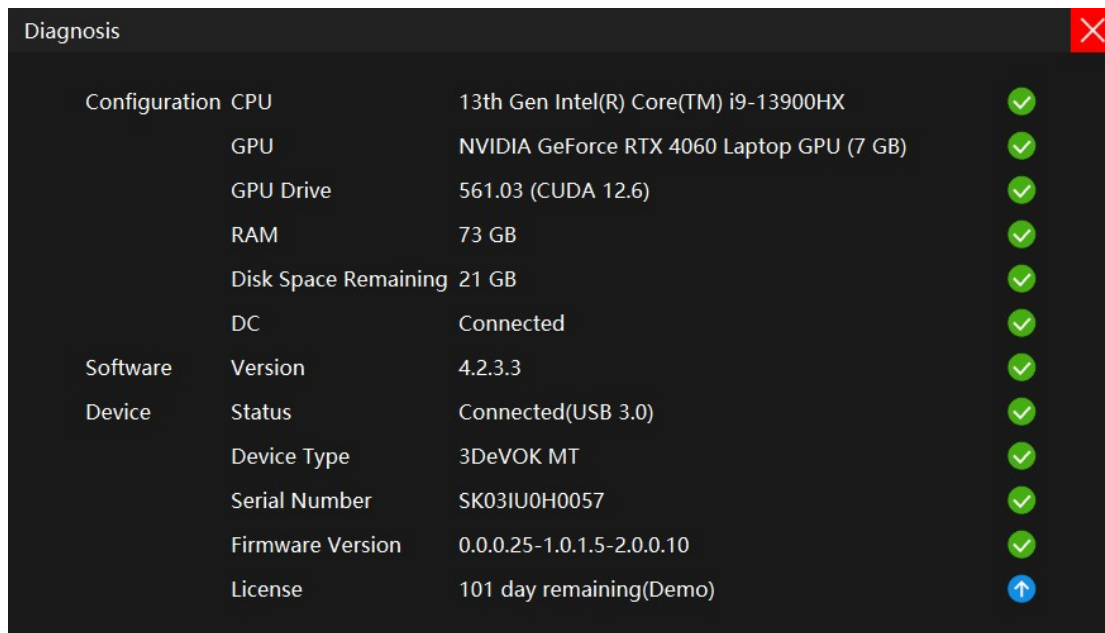

Figure 5-6 The Latest Firmware Version for V4.2.3.3
3. After the upgrade process, check the Diagnosis. The icon  will turn  indicating that the firmware and the screen are the latest one (0.0.0.25-1.0.1.5-2.0.0.10, compatible with V4.2.3.3), which is shown in Figure 5-6.